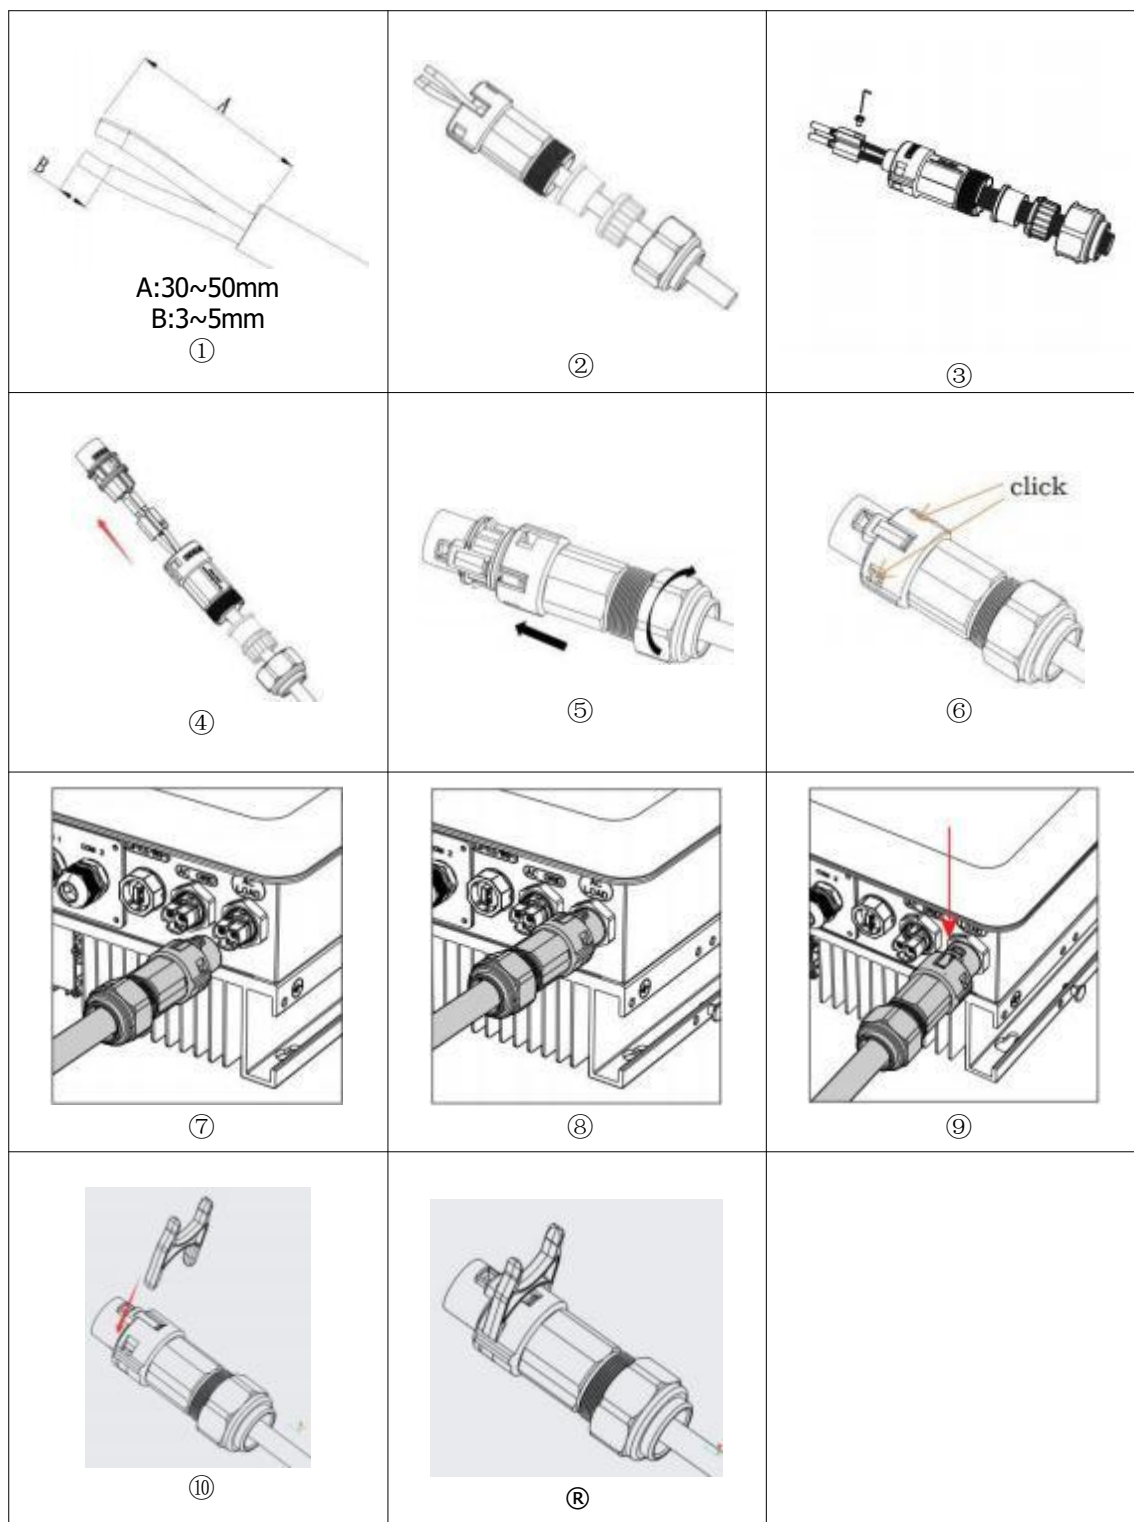

Figure 12: Connection of load cable
- Step 1: Select the appropriate type and specification of cable according to Table 4-3, and then strip the cable; the specific stripping length shall refer to Figure 12 ①; A: 30~50mm
- Step 2: Disassemble the AC terminal as shown in Figure 12 ②, and pass the stripped cable through the waterproof locking nut;
- Step 3: Lock the cable into the locking hole on the terminal as indicated, and fastened with a hexagon socket screwdriver, as shown in Figure 12 ③④;
- Step 4: Insert the output terminal, and when the “click” sound is heard, tighten the waterproof nut clockwise, as shown in Figure 12 ⑤⑥, to ensure that the cable is securely connected;
- If it is required to remove the terminal from the equipment, it can be pulled out by a tool inserted in the direction as indicated by the arrow. The same tool can be used to remove the terminal, as shown in Figure 12 ⑩®.